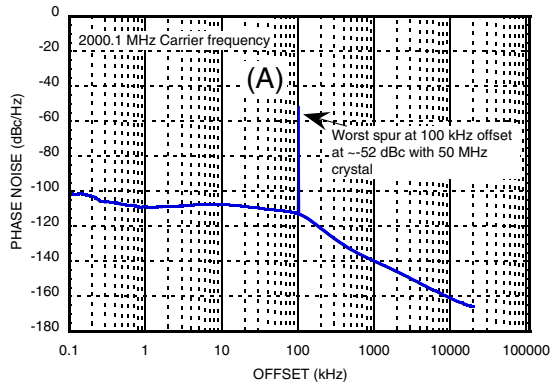
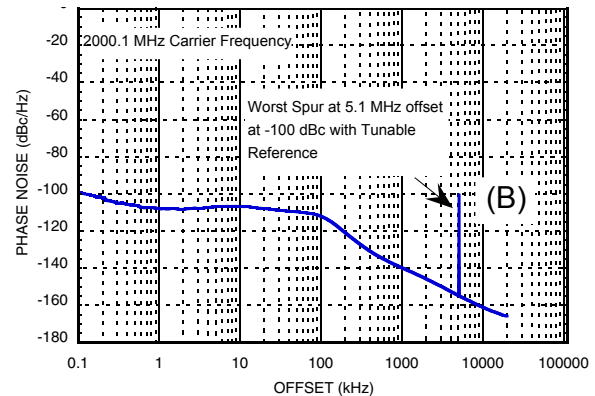
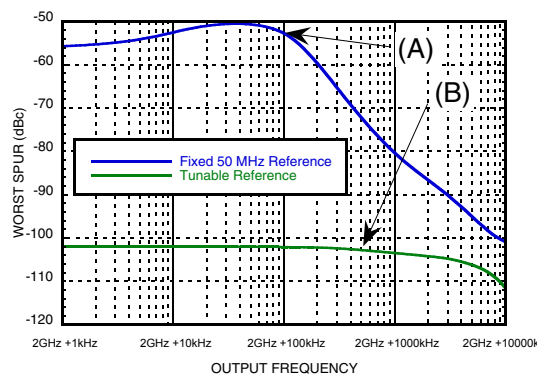

Figure 35. HMC833LP6GE Worst spur at any offset, fixed 50 MHz reference, output frequency = 2000.1 MHz
Figure 36. HMC833LP6GE worst spur at any offset, tunable reference (HMC830LP6GE), output frequency = 2000.1 MHz
Figure 37. Largest observed spurious, at any offset, using a fixed 50 MHz reference source and a tunable reference source.
For example, Figure 35 shows the spectrum of a carrier operating at 2000.1 MHz with a 50 MHz fixed reference. This case is 100 kHz away from an Integer Boundary (50 MHz x 40). Worst case spurious can be observed at 100 kHz offset and about -52 dBc in magnitude.
Figure 36 shows the same HMC833LP6GE PLL VCO operating at the same 2000.1 MHz carrier frequency, using a tunable reference at 47.5 MHz generated by HMC830LP6GE. Worst case spurious in this case can be observed at 5 MHz offset and about -100 dBc in magnitude.
The results of Figure 35 and Figure 36 show that the tunable reference source achieves 50 dB better spurious performance, while maintaining essentially the same phase noise performance.
Many spurious measurements, such as the ones in Figure 35 and Figure 36 can be summarized into a single plot of worst case spurious at any offset vs. carrier frequency as shown in Figure 37. A log frequency display relative to the 2000 MHz fixed reference Integer Boundary was used to emphasize the importance of the loop bandwidth on spurious performance of the fixed reference case. This technique clearly shows the logarithmic roll-off of the worst case spurious when operating near the Integer Boundary. In this case the loop filter bandwidth of the HMC833LP6GE was 100 kHz.
For example worst case spurious operating at 2000.1 MHz (point (A)) in Figure 35 with a fixed 50 MHz reference) is represented by a single point in Figure 37 (point (A)) on the blue curve. Similarly, worst case spurious from Figure 36 with variable reference, operating at 2000.1 MHz is represented by a single point in Figure 37 (point (B)) on the green curve.
The plot in Figure 37 is generated by tuning the carrier frequency away from Integer Boundary and recording the worst case spurious, at any offset, at each operating frequency. Figure 37 shows that the worst case spurious for the 50 MHz fixed reference case, is nearly constant between -51 dBc and -55 dBc when operating with a carrier frequency less than 100 kHz from the Integer Boundary (blue curve). It also shows that the worst case spurious rolls off at about 25 dB/decade relative to 1 loop bandwidth. For example, at an operating frequency of 2001 MHz (equivalent to 10 loop bandwidths offset) worst case spurious is -80 dBc. Similarly, at an operating frequency of 2010 MHz (equivalent to 100 loop bandwidths) worst case spurious is -100 dBc.
In contrast, the green curve of Figure 37 shows that the worst case spurious over the same operating frequency range, when using an HMC830LP6GE tunable reference, is below -100 dBc at all operating frequencies!